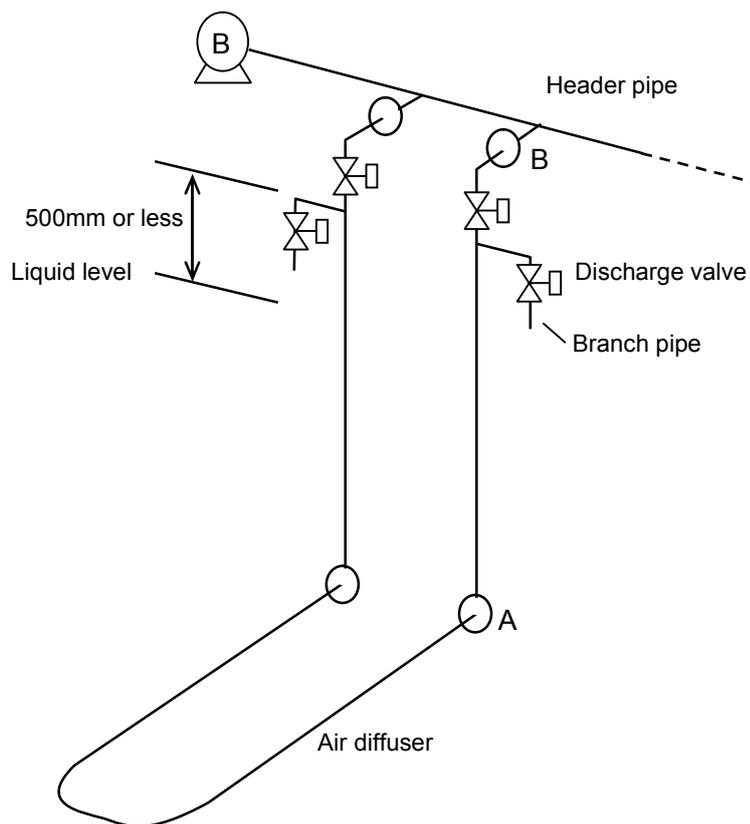

Fig.IV-9 Example of Piping to Air diffuser
(1) Pipe Arrangement for the air diffusers
The pipe from the air supply device (the blower) is connected to the air diffusers with the flange (A). (see Fig.IV-9). It is recommended to install the flange connection (B) above the liquid surface on this pipe line in order to disjoint the piping in the case of lifting the modules.. Please install branch pipe and valves for cleaning the air diffuser with air jet from the blower. It is advisable to locate the branch pipe within 500 mm above the liquid surface, and it is highly recommended to install the automatic cleaning system with automatic valves. Please see VIII-2 for the procedure of cleaning the air diffusers.